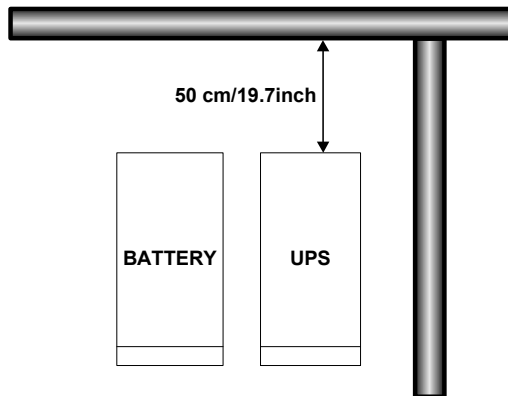

Fig. 4-1 Ventilation (Top view)
- The UPS should always have a clearance space of 50cm/19.7inch at the rear. Refer to Fig.4-1.
The UPS can auto-detect the bypass mode voltage. The protection range is +15%~-20%. When bypass voltage is beyond protection range, UPS will no output power to the load. The message in fig.4-1 will be shown on the LCD.